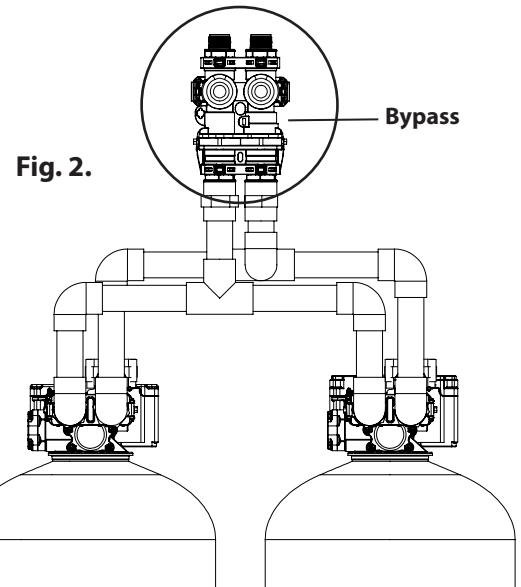

Fig. 2.
1. Make sure the bypass is attached securely to the lead valve & follower valve via the pipe connections as shown, See **Fig. 2**.